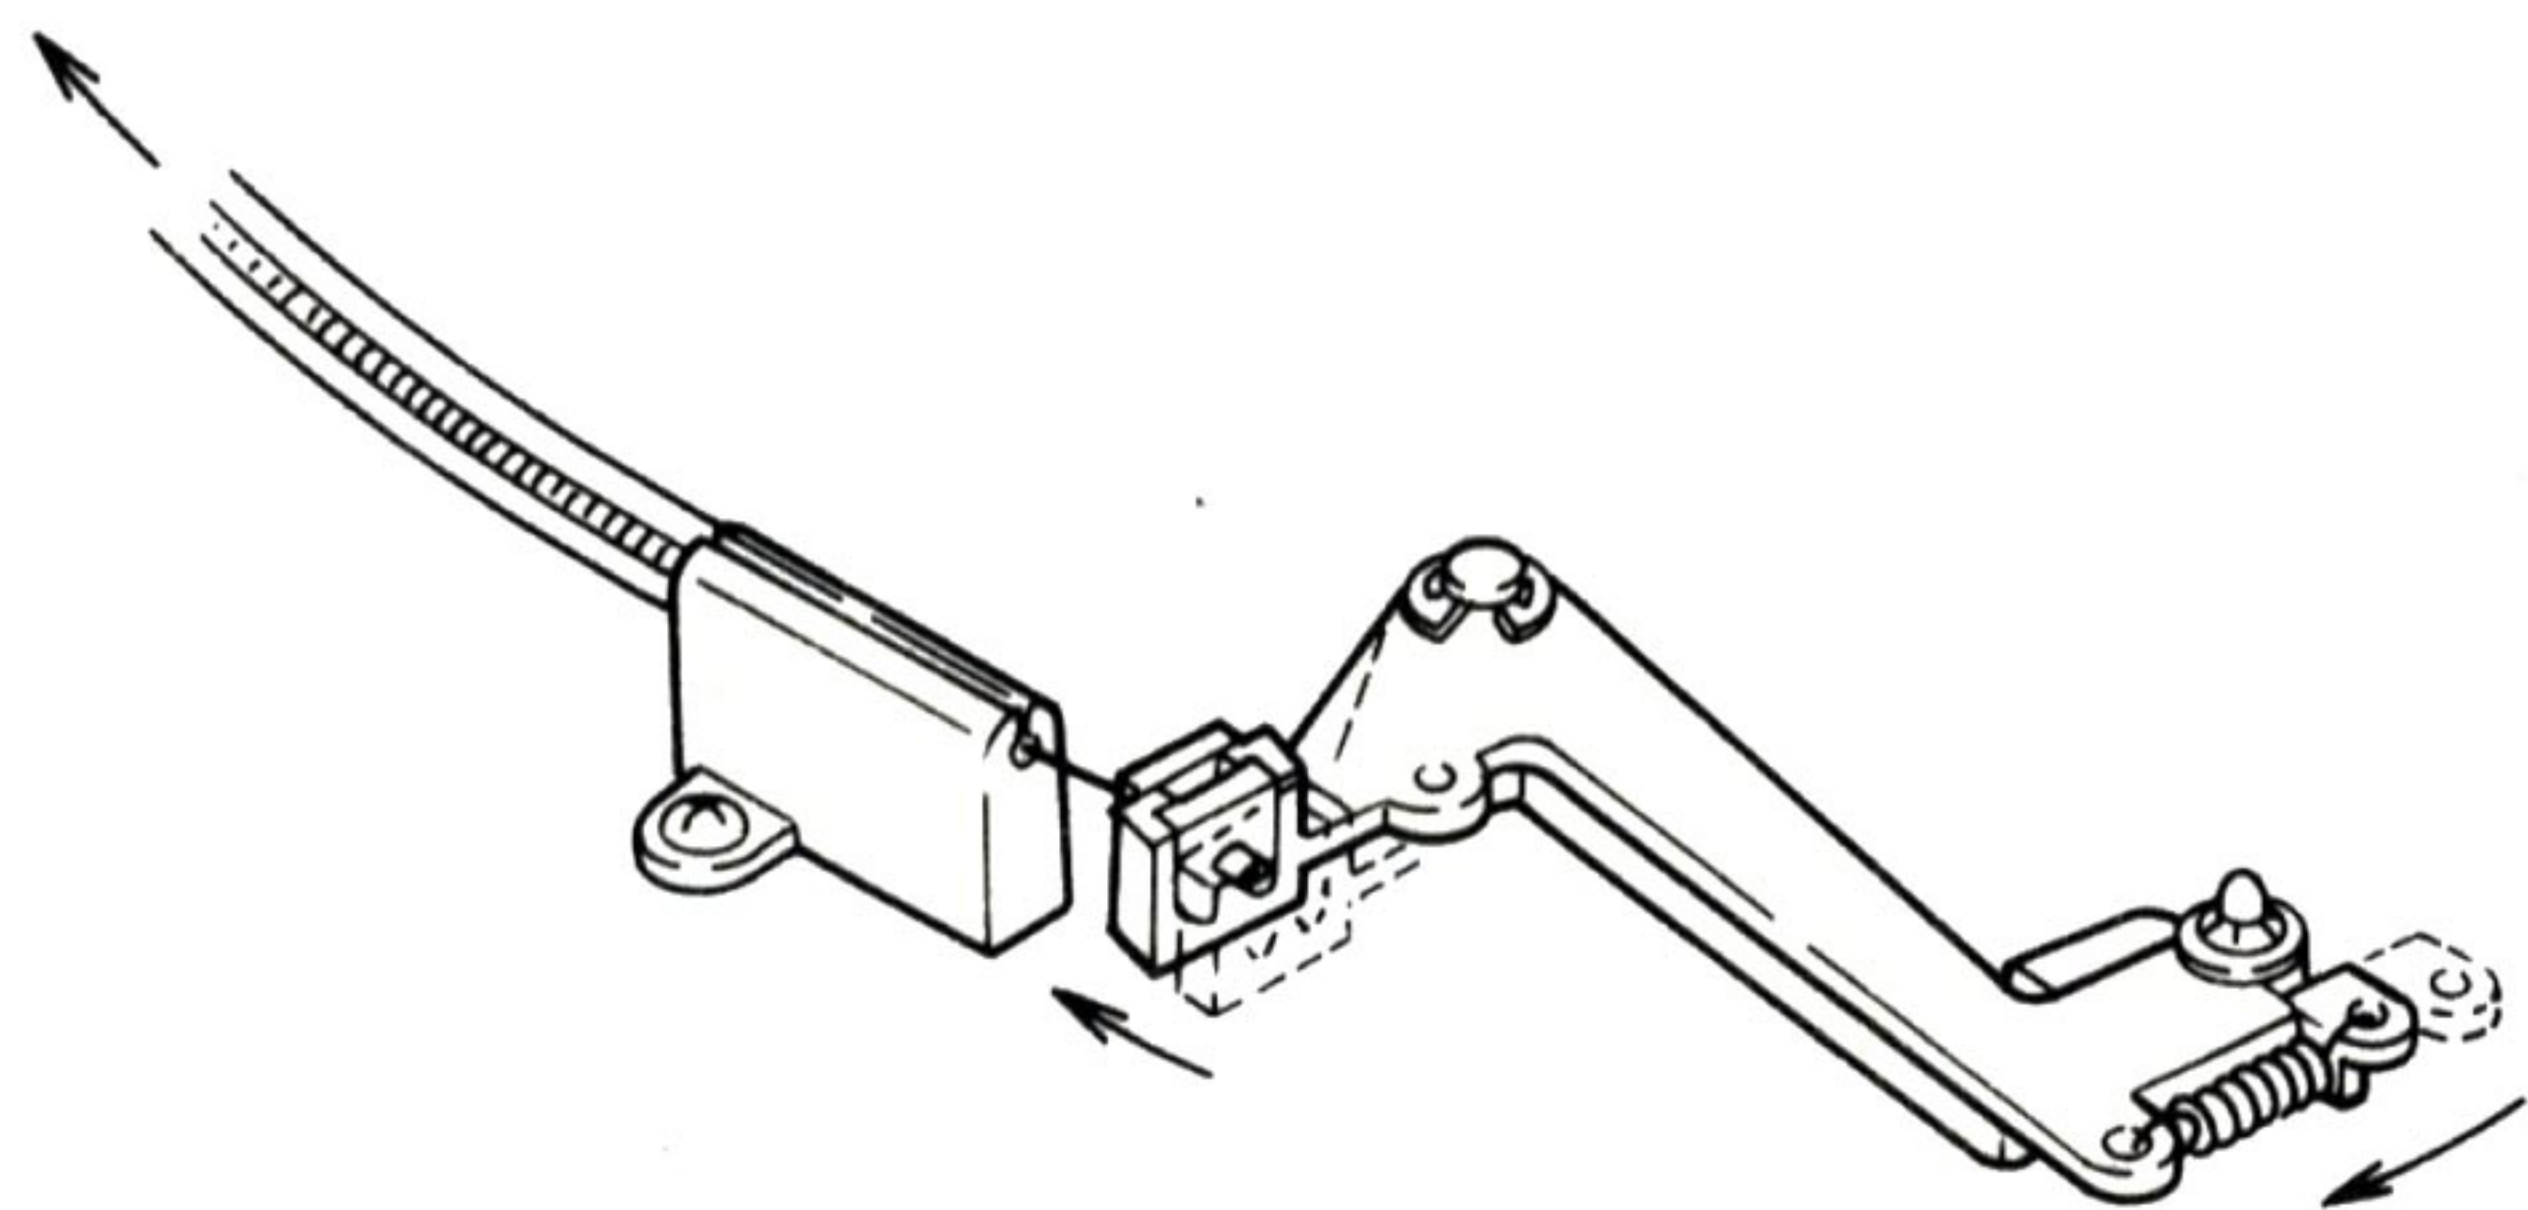

Fig. 22
- When the REPEAT button is depressed, wire A pulls and locks lever B (Fig. 22).